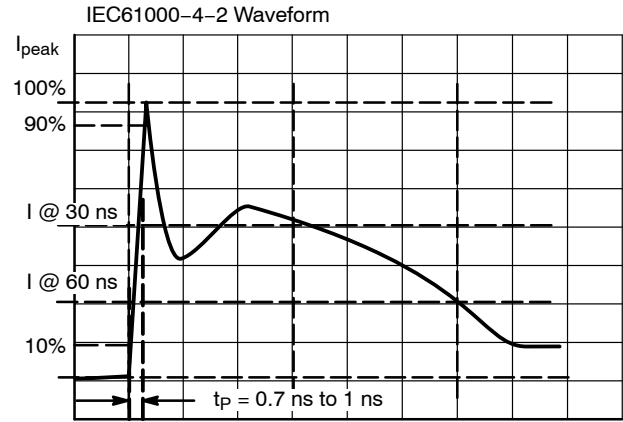

Figure 3. IEC61000-4-2 Spec
- For test procedure see Figures 3 and 4 and Application Note AND8307/D.